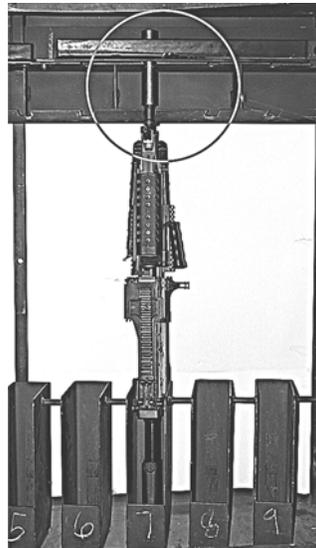

Figure 3. M13 Arms Rack used with Storage Rack Adapter.
2. Place the M249 into the M13 rack, buttstock first (Figure 3).
5. Place locking bar across the storage rack adapter with the bar inserted into the single slot (Figure 3).